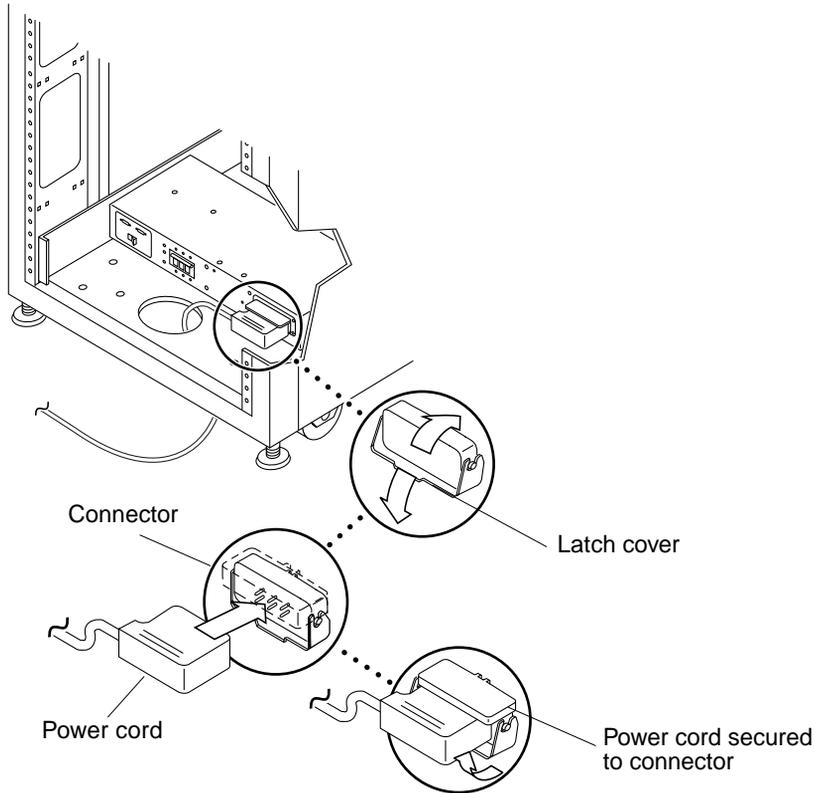

FIGURE 3-10 Connecting the Power Cord
4. **Connect the female end of each power cord to the power sequencer connector** (FIGURE 3-10).